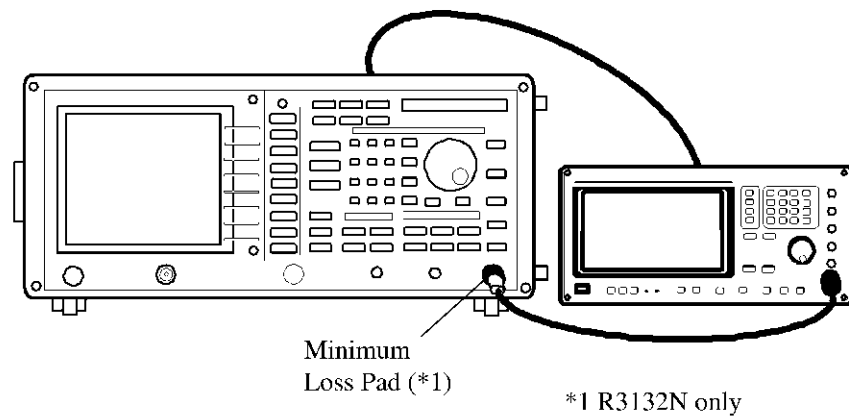

Figure 5-17 Setup of Frequency Span Accuracy Test
1. Connect the signal generator as shown Figure 5-17.